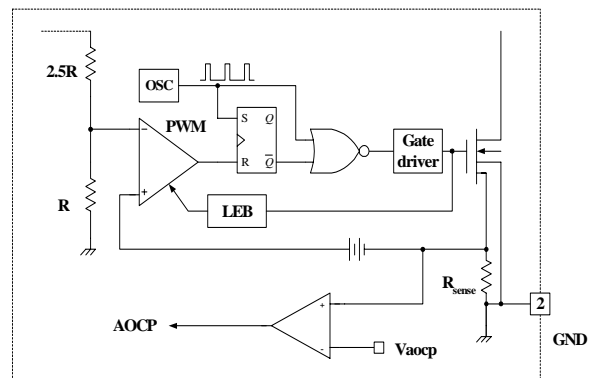

Figure 8. AOCP block
3.2 Abnormal Over Current Protection (AOCP) : Even though the FPS™ has OLP (Over Load Protection) and current mode PWM feedback, these are not enough to protect the FPS™ when a secondary side diode short or a transformer pin short occurs. The FPS™ has an internal AOCP (Abnormal Over Current Protection) circuit as shown in figure 8. When the gate turn-on signal is applied to the power Sense FET, the AOCP block is enabled and monitors the current through the sensing resistor. The voltage across the resistor is then compared with a preset AOCP level. If the sensing resistor voltage is greater than the preset AOCP level for longer than 300ns, the reset signal is applied to the latch, resulting in the shutdown of SMPS.